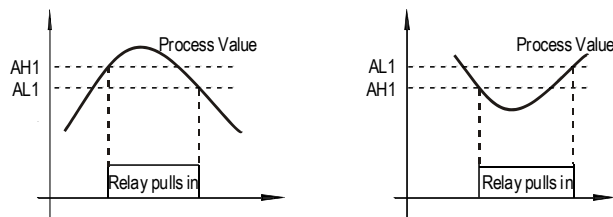

Figure 5. Reply (J1) action when the alarm is set as high alarm (left) and low alarm (right).
- 2) Set AH1>AL1, relay is for high limit alarm. See Figure 5 (left).
- 3) Set AH1<AL1, relay is for low limit alarm. See Figure. 5 (right).